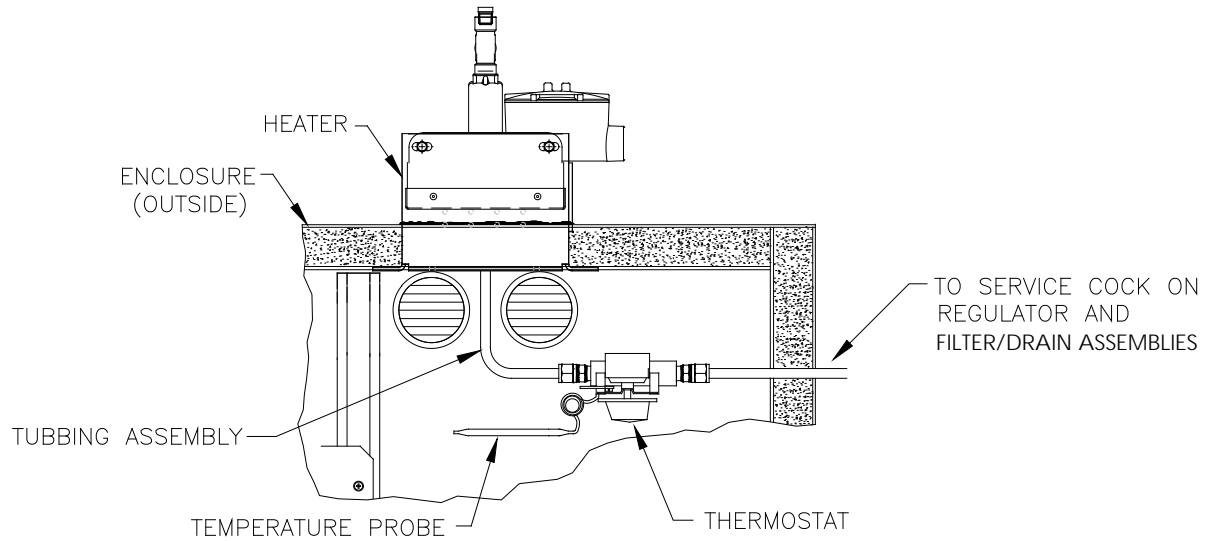

Figure 3-49 Thermostat Assembly Installed
- 4) Screw the threaded end of the T assembly into the ¼" female fitting located on the **factory-installed catalytic heater**, by turning the entire assembly clockwise until tight (see Figure 3-49).